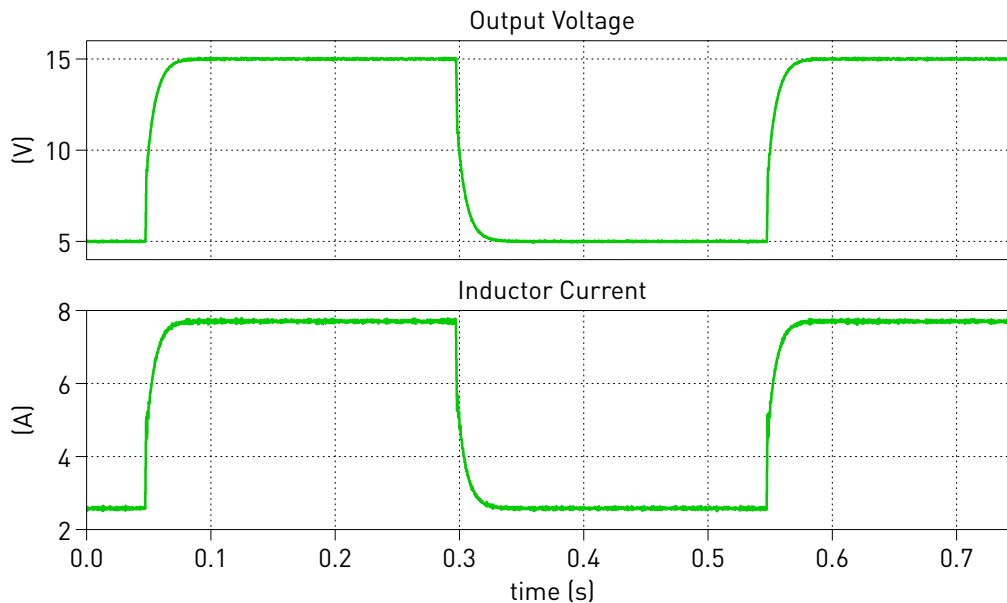

Figure 8: Output voltage and inductor current measurements in real time using the STM32 MCU
5 Flash the “Controller” on the STM32 board and connect to External Mode: From the **Coder Options** window, **Build** the “Controller” subsystem onto the STM32 MCU. Once the generated code is running on the STM32 target, **Connect** to the External Mode to update the scope of the Controller subsystem, as instructed in the “Introduction to PLECS STM32 Code Generation” tutorial. You should see the step response of the output voltage and inductor current in real time, as shown in Fig. 8.
- Flash the Controller MCU and connect to the External Mode: From the **Coder Options** window, **Build** the “Controller” subsystem onto the Controller MCU. Once the generated code is running on the STM32 target, **Connect** to the External Mode to update the scopes, as instructed in the “Introduction to PLECS STM32 Code Generation” tutorial. You should see the step response of the output voltage and inductor current in real time, as shown in Fig. 8